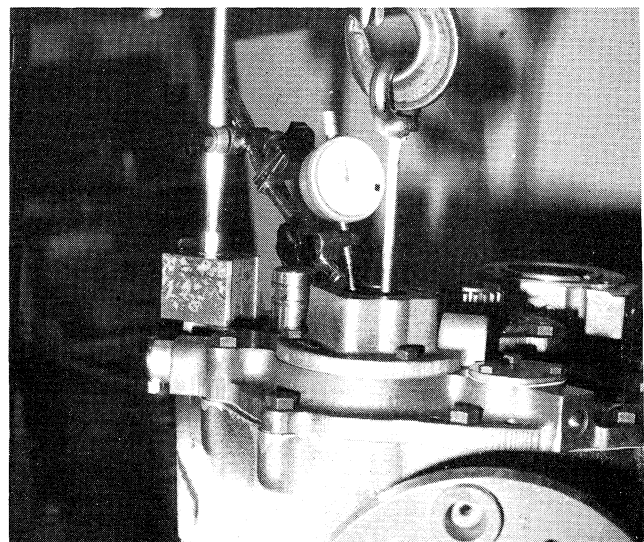

Figure 9-5. Applying pulling force while checking reverse clutch shaft end play.
8. Use a hoist and fish scale to apply 60 to 100 lbs. upward (rearward) pressure and rotate the reverse clutch shaft (by turning the output shaft) several revolutions in each direction. See Figure 9-5. Stop with the tip resting on the marked spot. The indicator reading is the end play.